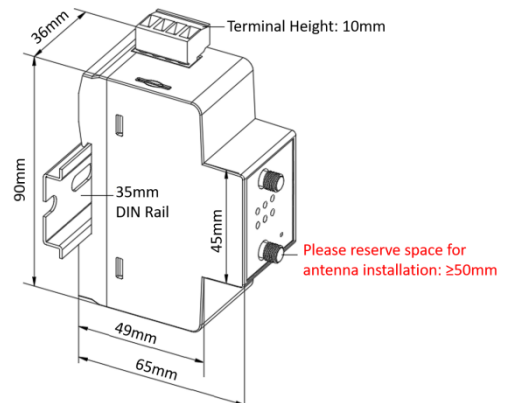

Figure 2-2 DIN-Rail Mounting
- Align the top of the mounting channel at the back of the iSmartGate SE at an angle against the top of the DIN Rail as shown in Figure 2-2 right.